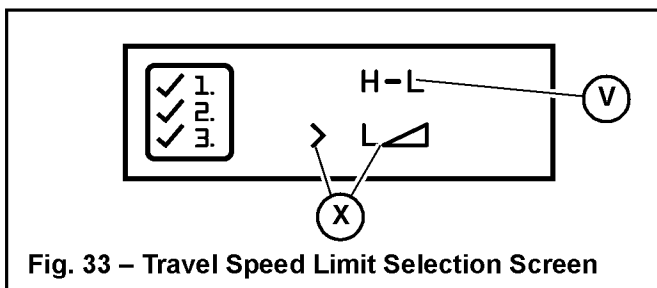
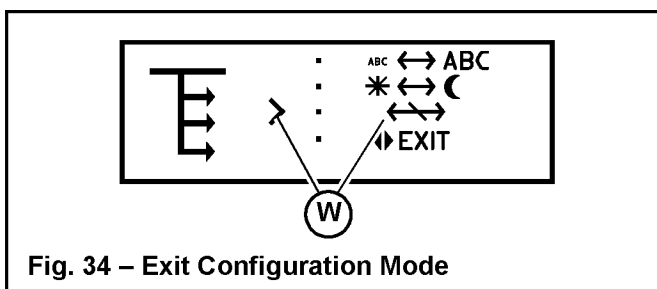

Fig. 33 – Travel Speed Limit Selection Screen
Fig. 34 – Exit Configuration Mode
- Press and release the interface button until the selection caret points to the travel speed limit configuration selection (Y, Fig 33). Press and hold the interface button until the Travel Speed Limit Selection screen (Fig 33) displays.
- Press and release the interface button until the selection caret points to the travel speed limit selection (X, Fig 33). Press and hold the interface button until the configuration selection screen (Fig 34) displays.
- Press and release the interface button until the selection caret points to the “EXIT” selection (W, Fig 34). Press and hold the interface button until the home status screen displays. The travel speed limit option is now activated.
- Repeat travel speed limit activation, with the exception of moving the selection caret to the “H-L” selection (V, Fig 33)..